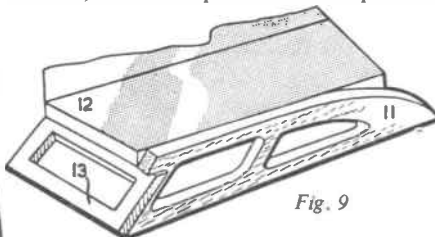

Fig. 9
over and cement in place the two windows (13) as seen in Fig. 9.